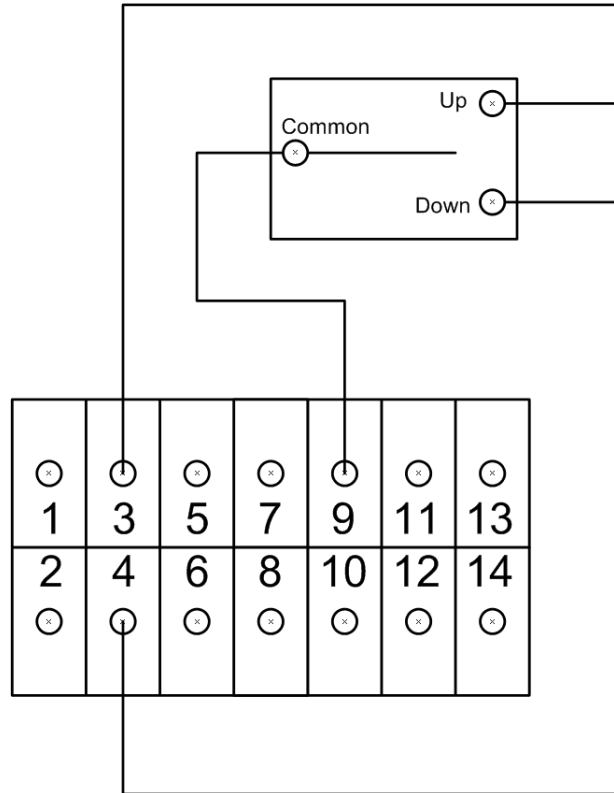

Figure 16. Dry Contacts
- a. Connect the common wire from your switch to terminal 9 (see Figure 16).